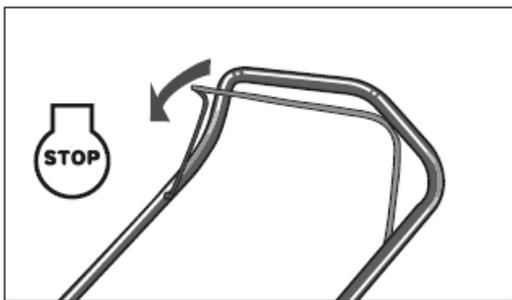

Fig.11A
1. Release the brake control bar to stop mowing. (Fig.11A)